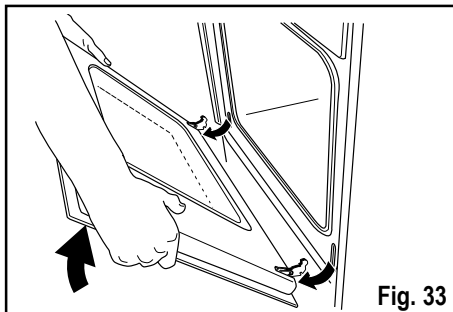

Fig. 33
3. Handle the door by its left- and right-hand sides, then slowly turn it towards the oven until it is half-closed; at this point, gently pull the oven door away from the oven frame (Fig. 33).